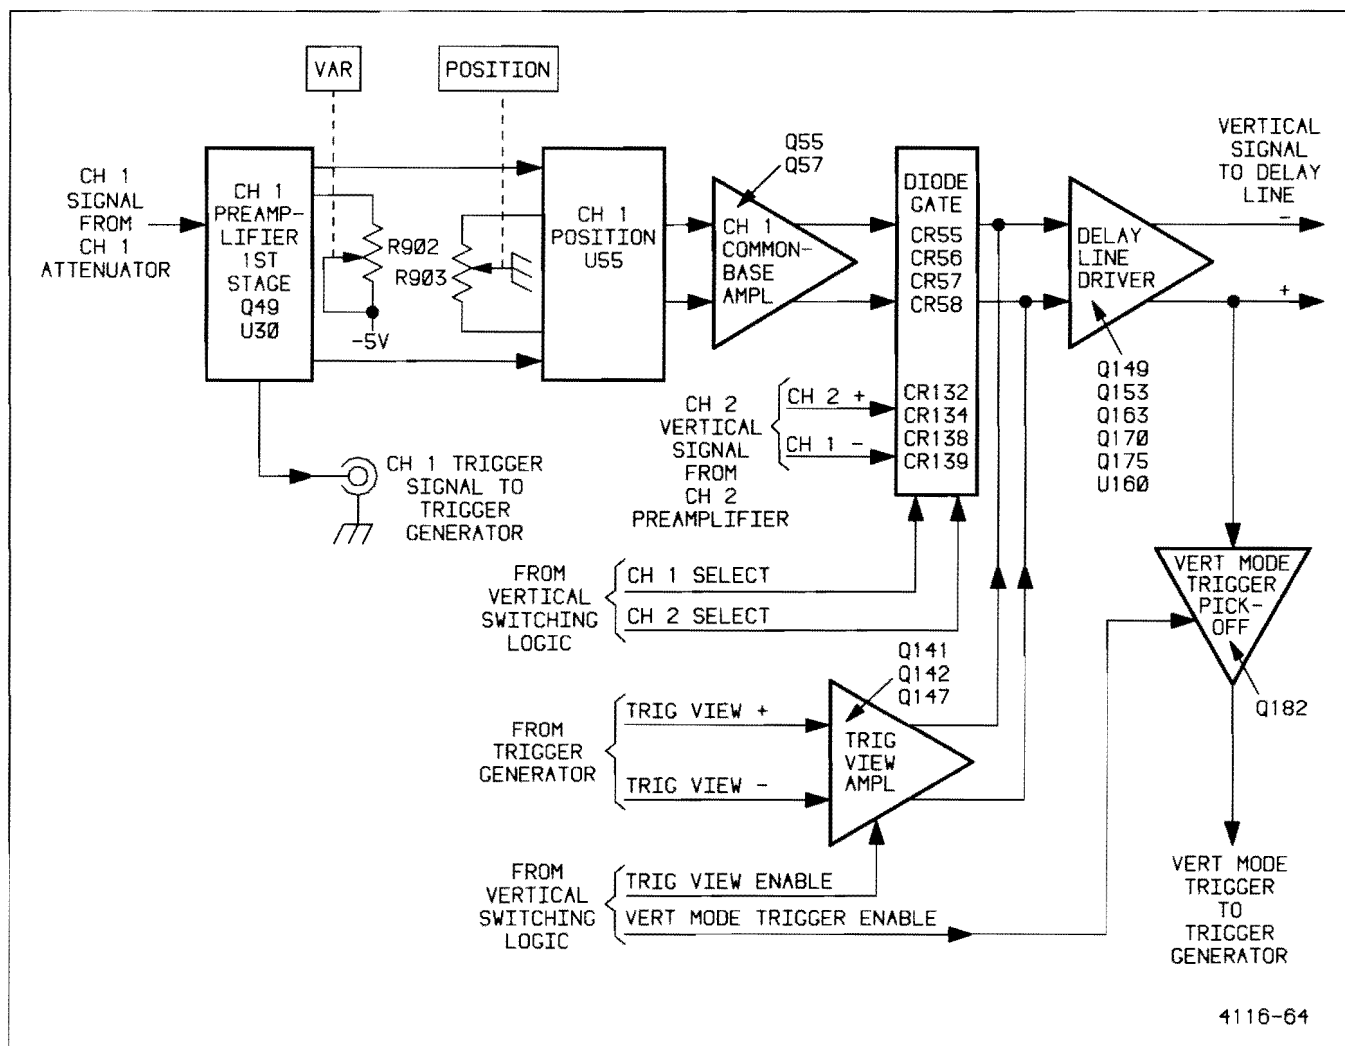

Figure 3-3. Vertical Preamplifier, Diode Gate, and Delay Line Driver, simplified block diagram.
Channel 1 and Channel 2 Vertical Preamplifiers are shown on schematic diagram 2. They are identical with the exception of the added inverting feature in the Channel 2 circuitry. Complete Channel 1 circuit operation is described, along with the Channel 2 differences. A simplified block diagram of the Vertical Preamplifier circuitry is shown in Figure 3-3.
**TRIG VIEW DISPLAY.** While the TRIG VIEW push button is pressed in, both Diode Gates are biased off, and the Trigger View Amplifier (shown in Figure 3-3) is enabled to pass the A Trigger View signal to the Delay Line Driver.